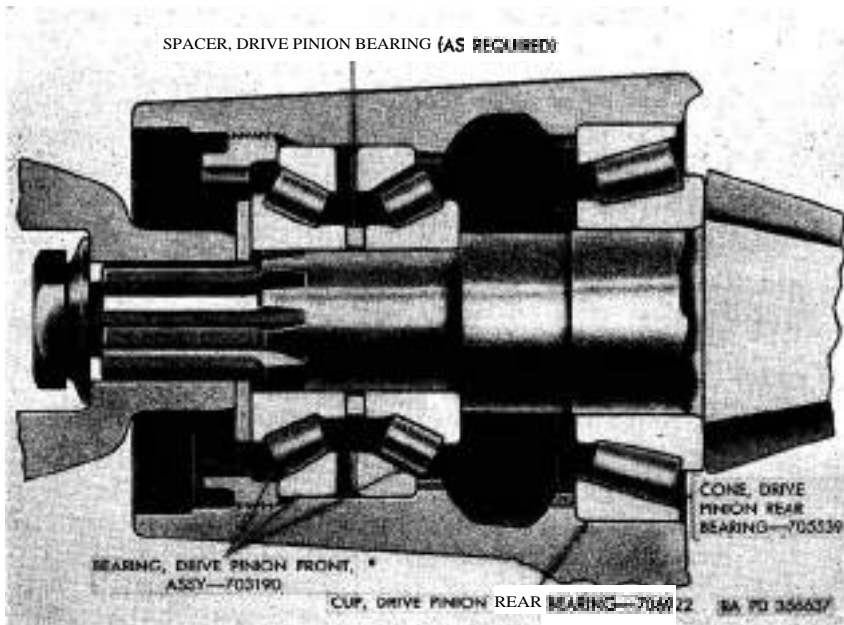

Figure 84. Location of drive pinion bearing spacer for checking preload of rear bearing and front bearing outer cone.
- (1) Install front bearing inner cone followed by original drive pinion bearing spacer (*fig. 84*) on drive pinion.